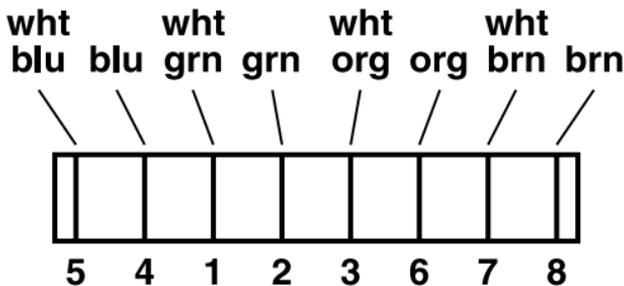

Figure 3-1. T568A wire colors.
3. Separate the pairs according to color (blue-white/blue, green-white/green, orange-white/orange, and brown-white/brown). See Figure 3-1.